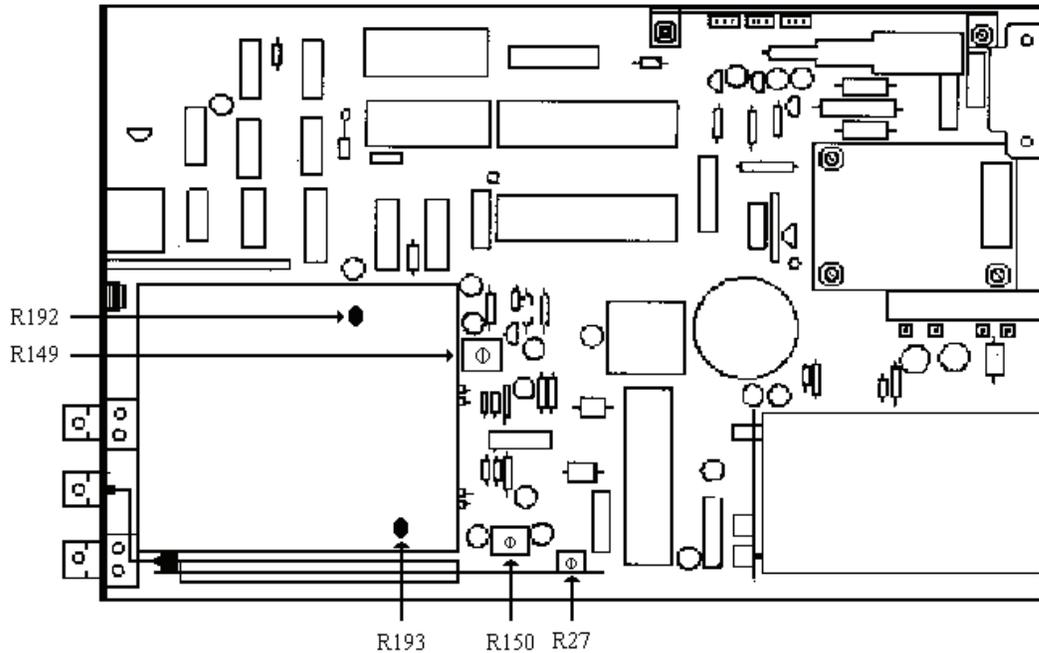

Figure 1. Adjustment locations, test instrument top view.
- (1) Disconnect signal or function generator from **TI INPUT A** and press **TI RESET/CONTINUE** key.
- (2) Adjust R149 (fig. 1) fully ccw.
- (3) Adjust R192 (fig. 1) to its mid-point.
- (4) Press **TI RESOLUTION ↓** key until display indicates **000**.
- (5) Connect signal generator rear panel **EXT REF INPUT** to TI rear panel **10MHz STD. OUTPUT**.
- (6) Connect signal generator **OUTPUT RF** to **TI INPUT A**.
- (7) Set signal generator frequency to 100 MHz and amplitude to 3 mV.
- (8) Adjust R192 (fig. 1) to obtain a stable  $100.0 \pm 0.1 E^{-6}$  TI indication with **GATE** and **INPUT A TRIG** LEDs flashing.
- (9) Disconnect signal generator from **TI INPUT A**.
- (10) If TI does not indicate  $100.0 \pm 0.1 E^{-6}$  without **GATE** LED flashing; repeat step (6) above through step (10).
- (11) Press **TI RESET/CONTINUE** key.
- (12) Press **TI RESOLUTION ↑** key until display indicates **00000000**.
- (13) Reconnect signal generator **OUTPUT RF** to **TI INPUT A**.
- (14) Set signal generator amplitude to 13 mV.
(15) Slowly adjust R149 (fig. 1) cw until TI display just becomes unstable.
(16) Slowly adjust R149 (fig. 1) ccw until TI display stabilizes and indicates  $100.000000 \pm 0.000001$ .
(17) Set signal generator amplitude to 7 mV.
(18) If TI GATE LED is flashing; repeat (14) above through (18).
(1) Disconnect signal or function generator from TI **INPUT B** and press TI **RESET/CONTINUE** key.
(2) Adjust R150 (fig. 1) fully ccw.
(3) Adjust R193 (fig. 1) to its mid-point.
(4) Press TI **RESOLUTION**  $\downarrow$  key until TI displays **000**.
(5) Connect signal generator rear panel **EXT REF INPUT** to TI rear panel **10MHz STD. OUTPUT**.
(6) Connect signal generator **OUTPUT RF** to TI **INPUT B**.
(7) Set signal generator output to 100 MHz and output level to 3 mV rms.
(8) Adjust R193 (fig. 1) to obtain a stable  $100.0 \pm 0.1 E6$  TI indication with **GATE** and **INPUT B TRIG** LEDs flashing.
(9) Disconnect signal generator from TI **INPUT B**.
(10) If TI does not indicate  $100.0 \pm 0.1 E^{-6}$  without **GATE** LED flashing, repeat step (6) above through (10).
(11) Press TI **RESET/CONTINUE** key.
(12) Press TI **RESOLUTION**  $\uparrow$  key until display indicates **00000000**.